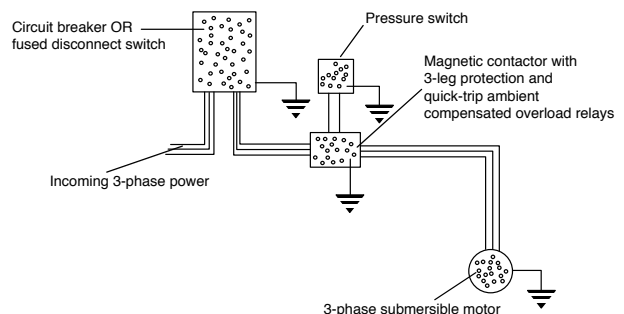

FIGURE 4
9. A three-wire, three-phase pump does not require a motor control box. Figure 4 shows a typical wiring diagram for a three-wire, three-phase installation. A magnetic contractor with three-leg protection and quick-trip ambient compensated overload relays must be used.